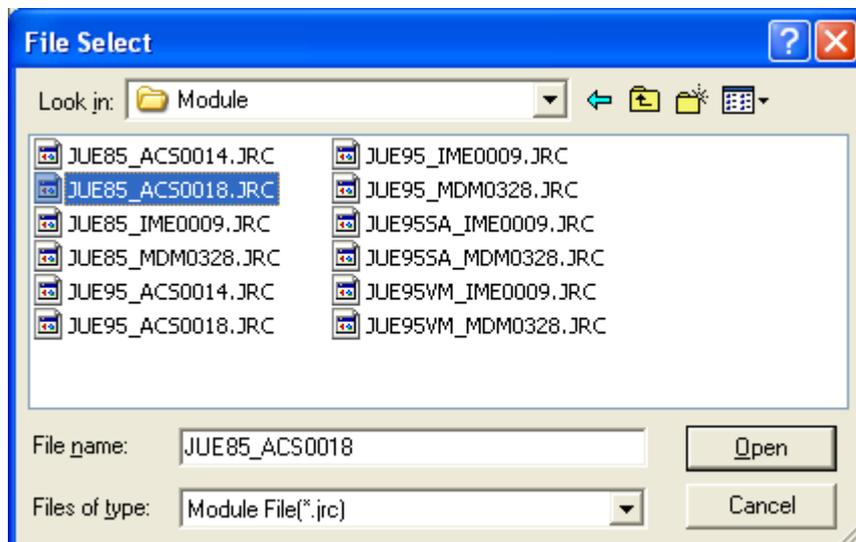
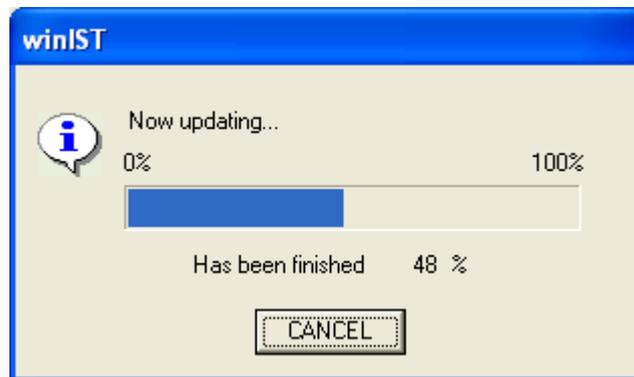
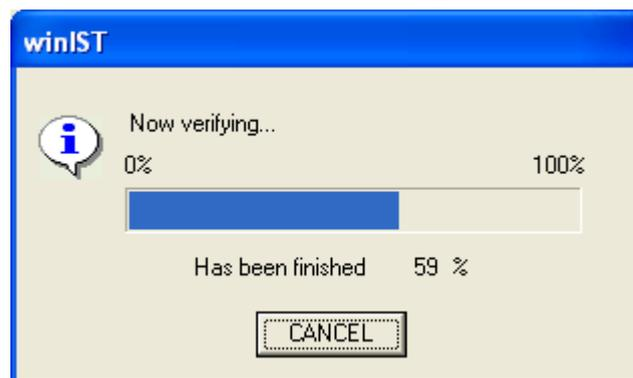
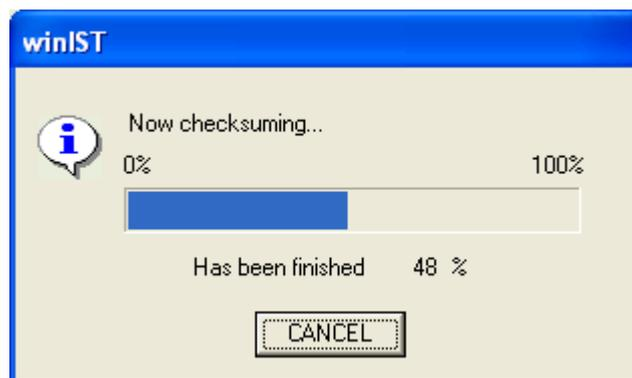

Fig. 4-33j File Select window
Fig. 4-33m Update progress display window
Fig. 4-33p Verify progress display window
Fig. 4-33s Checksum progress display window
4. Following dialogue box is displayed at [Fig. 4-33j File Select] when you select the file, which is, not exist in winIST. Select the file exist in winIST.
- Following dialogue box is displayed in [Fig. 4-33j File Select window],[Fig. 4-33m Update progress display window],[Fig. 4-33p Verify progress display window], [Fig. 4-33s Checksum progress display window] when you select illegal module file. Select proper file.